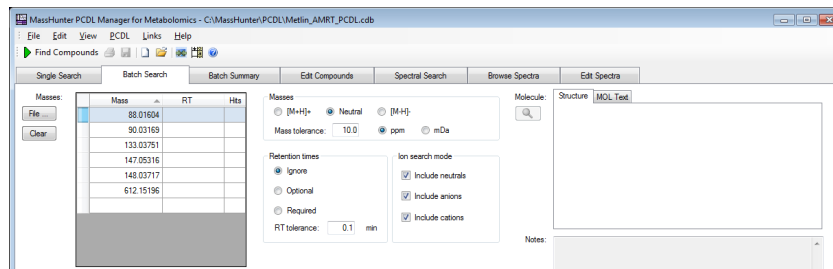

Figure 29 Masses added to the Batch Search tab
- e Enter the masses for the new compounds into the *Masses* table (Figure 29). The list of the masses is shown in Table 2.